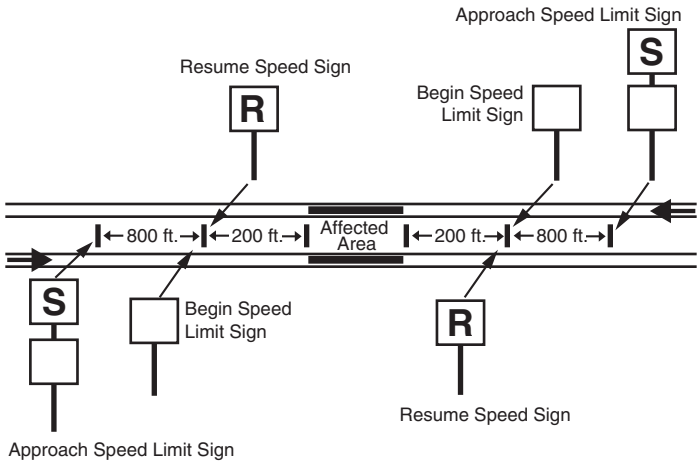

Figure 31
2.2004 When operating through Slow Zones marked by “Slow Zone Signs” and “Slow Zone Speed Limit Signs”, train speed must be reduced. The “Slow Zone Sign” (‘S’) and the “Slow Zone Speed Limit Sign” are posted together 800 feet in advance of the actual speed reduction at the stand-alone “Slow Zone Speed Limit Sign”. Speed must not be exceeded between the “Slow Zone Speed Limit Sign”(5, 15, 25, 35) and the “Resume Maximum Authorized Speed Sign (‘R’). When the front of the train reaches the “Resume Maximum Authorized Speed Sign” (‘R’), posted 200 feet past the affected area, operate at maximum authorized speed. See figure 31.